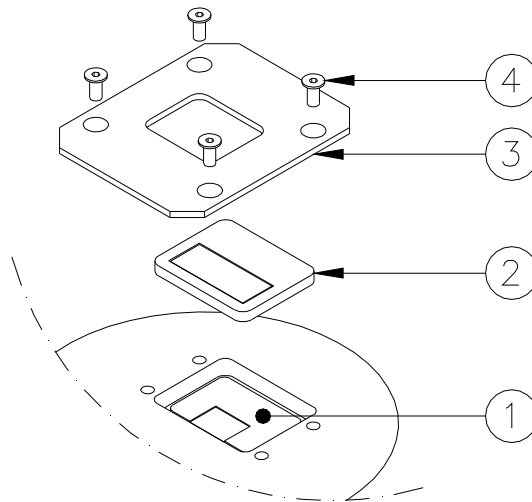

Figure 26 – Prism Surface to be Cleaned
- remove the mounting plate (Figure 26 - n°3) unscrewing the relevant screws HSFH M5x12 (Figure 26 - n°4)
- remove the filter assembly (Figure 26 - n°2)
- clean the prism surface (Figure 26 - n°1) with non abrasive glass product